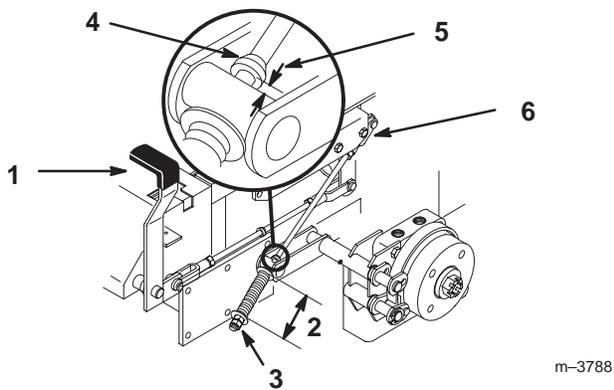

Figure 59
- Measure the length of the spring. Measurement should be 2.75" (70 mm) between washers (Fig. 59).
3. If adjustment is necessary, loosen the jam nut below the spring and tighten the nut directly below the yoke (Fig. 59). Turn the nut until the correct measurement is obtained. Tighten the two nuts together and repeat on opposite side of unit.
6. Measure the distance between the trunnion roller and the collar on brake rod . Measurement should be $3/16''-1/4''$ (5–7 mm) (Fig. 59).
7. If adjustment is necessary, loosen the jam nut directly below the yoke. Turn the bottom rod until the correct measurement is obtained (Fig. 59). Tighten jam nut at yoke